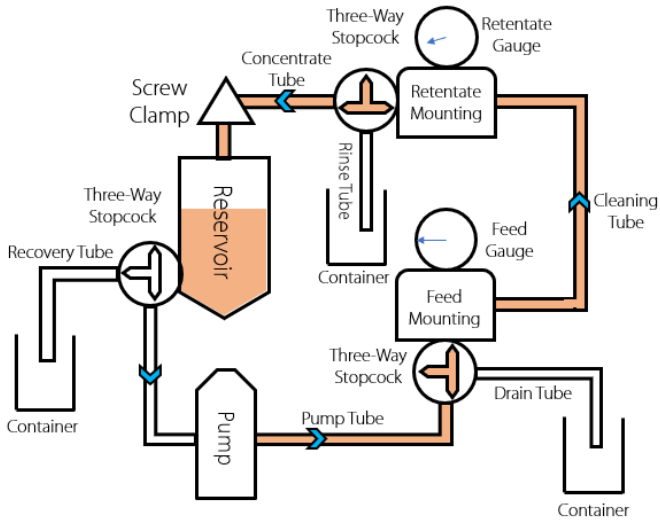

Figure 4
- d. Turn on the pump to collect all the solution into the reservoir and turn off the pump after collection. The flow path refers to figure 4.